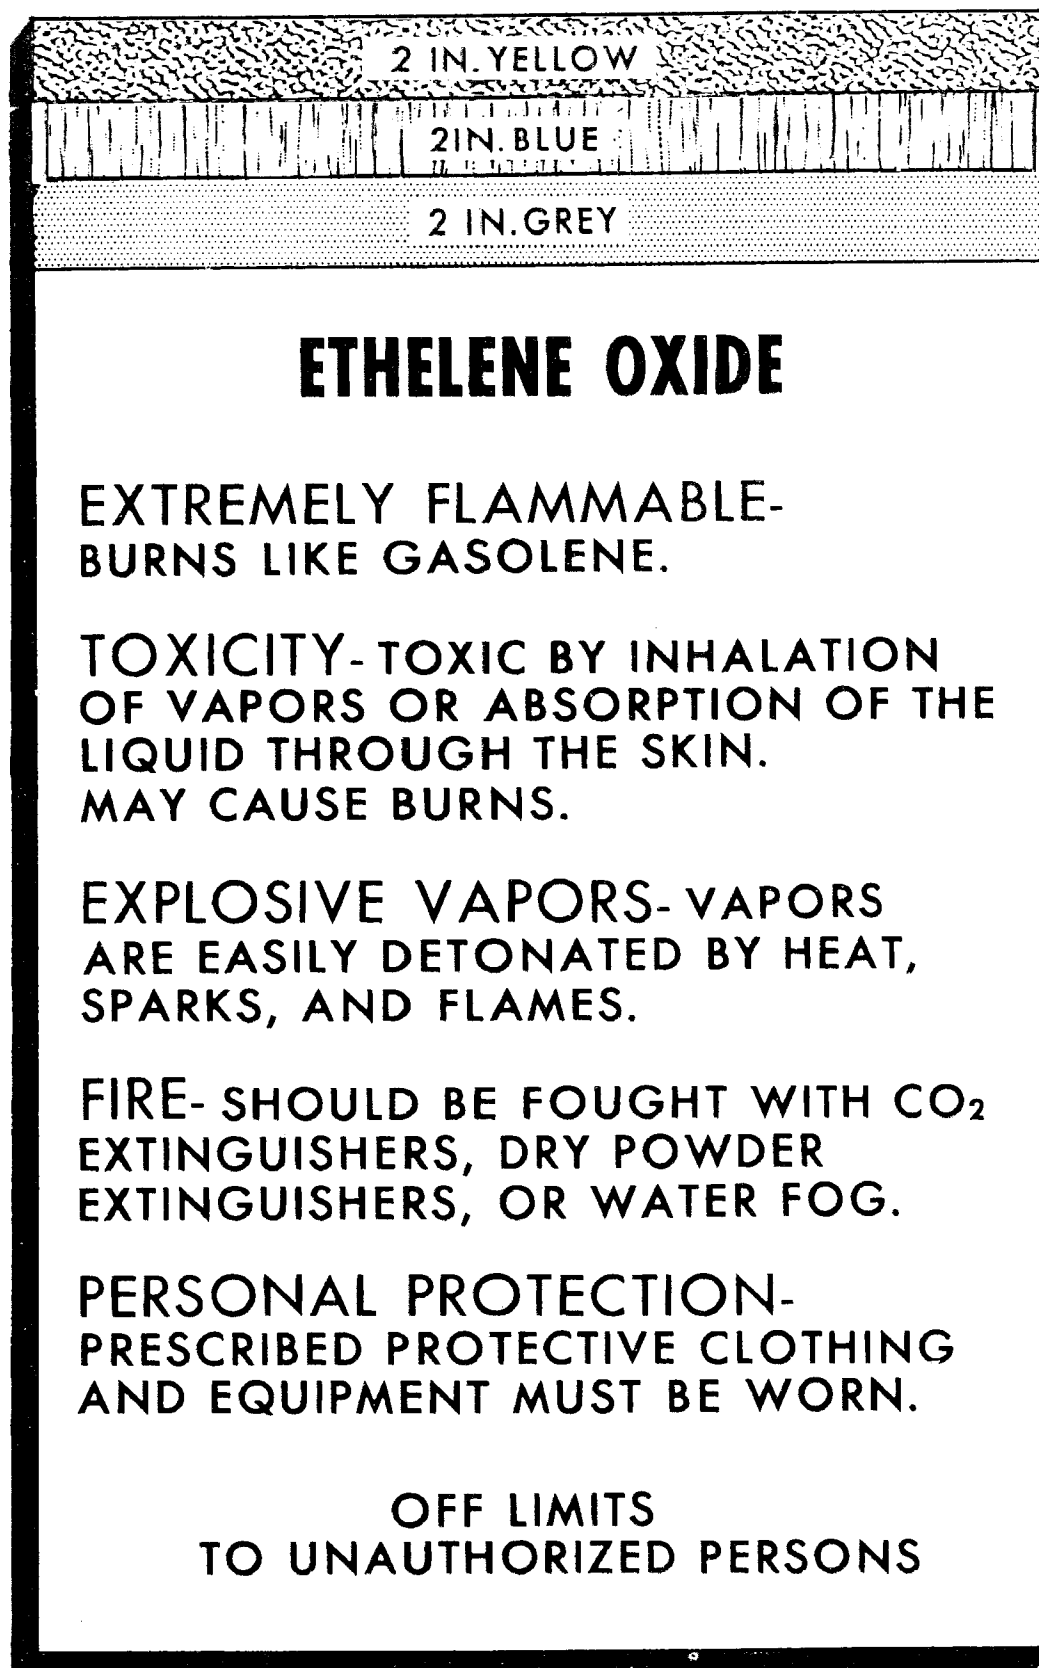

Figure 15-1. Warning sign for ethylene oxide.
(10) Each shelter in which ethylene oxide is stored must be posted with a fire symbol in accordance with TM9-1300-206. A warning sign (fig. 15-1) will be posted at each shelter storing ethylene oxide. This sign should be 36 inches wide and 41 inches high, with a white background and black lettering. Three 2-inch, colored stripes should be painted at the top of the sign. The stripe at the top edge should be yellow; the middle stripe, blue; and the lowest stripe, grey. Lettering and spacing on the sign should be proportional to the overall size of the sign.
(11) Small fires involving ethylene oxide can be extinguished with carbon dioxide or dry chemical agents if properly applied. Fires involving larger quantities of ethylene oxide are difficult to extinguish, although it is soluble in water. The fire will continue to burn until the liquid is diluted with approximately 22 volumes of water to one of ethylene oxide.
(12) Decontamination is required if leaks or spills occur. The following precautions must be taken immediately: